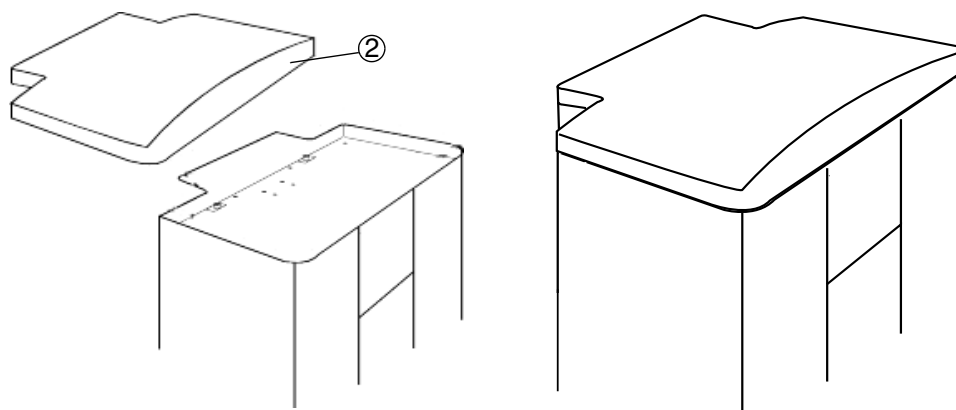

Fig. 2 MAMMOMAT cap
1. Place the cap on the top of the MAMMOMAT (No. 2/Fig. 2).